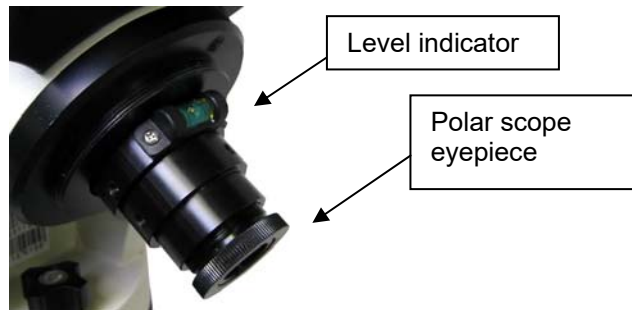

Figure 15. Polar scope with bubble level indicator
- (1) Level the iEQ45 Pro mount. Make sure the telescope optical axis is parallel to the polar axis (R.A. axis) of the mount. If using a finder scope, adjust it to be parallel to the telescope optical axis. Remove both the Polar Axis Cover and Polar Scope Cover.
- (2) Thread the polar LED into the threaded hole located on the Polar Scope. Connect one end of the polar scope power cable to the illumination LED and the other end to the Reticle socket located on main control board. Turn the mount power on. Use the Hand Controller (“**Settings**” => “**Set Eyepiece Light**”) to set the illumination intensity.
- (3) Use the ▲ or ▼ key to turn the DEC axle to unblock the Polar Scope view.
- (4) Adjust polar scope eyepiece shown in Figure 15 to bring the polar scope dial in focus.
- (5) Use the ◀ or ▶ key to adjust polar scope dial to ensure that 12 o'clock is at the top. If the polar scope is equipped with a bubble level indicator, you may use the bubble as the reference. You may release four R.A. clutch screws and hold the OTA while rotate the Polar Scope. It is also convenient to rotate the polar scope before loading the CW and OTA.